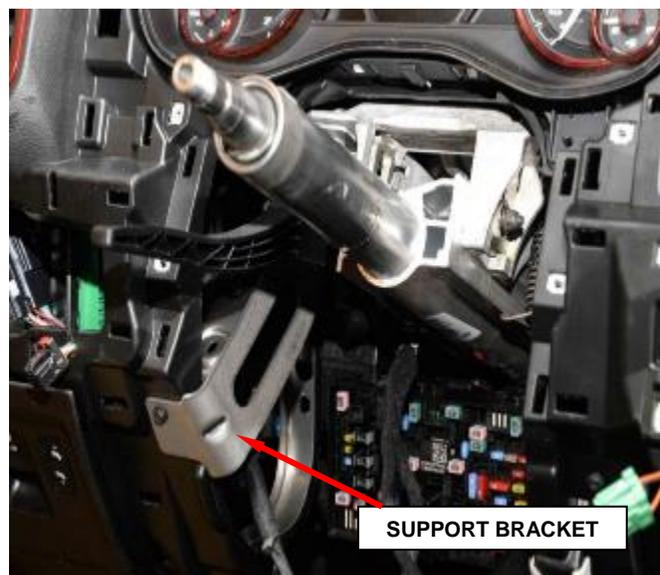

Figure 19 – Steering Column Support Bracket
26. Remove the steering column support bracket (Figure 19).